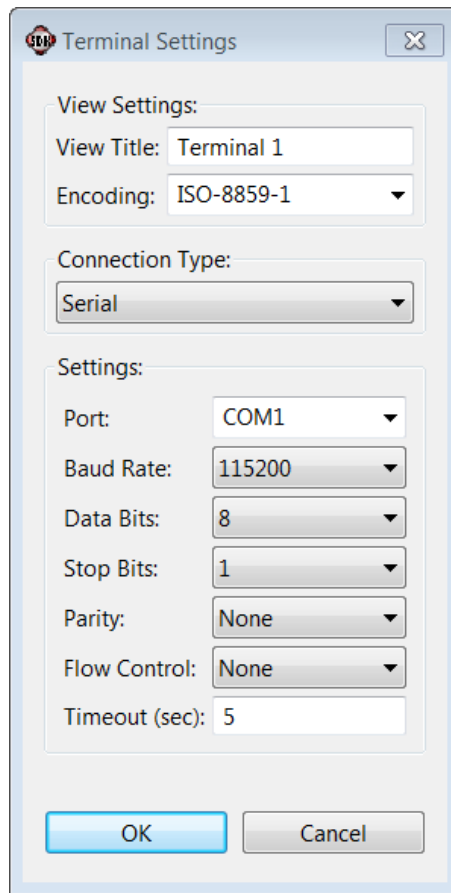

Figure 57: Terminal Settings for ZC702 Board
8. Use the following settings for the ZC702 board (Figure 57).